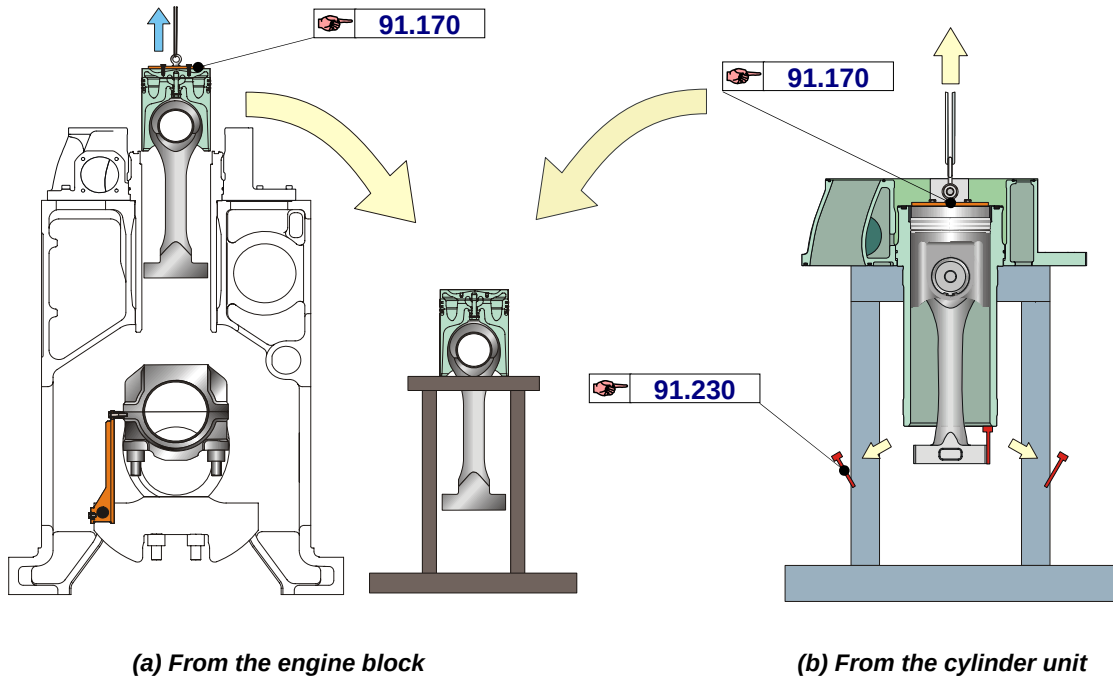

Fig.3 Lifting of the piston and connecting rod shaft
11. Move and place the piston together with connecting rod shaft at stable working stand (Optional) as shown in fig. 3.